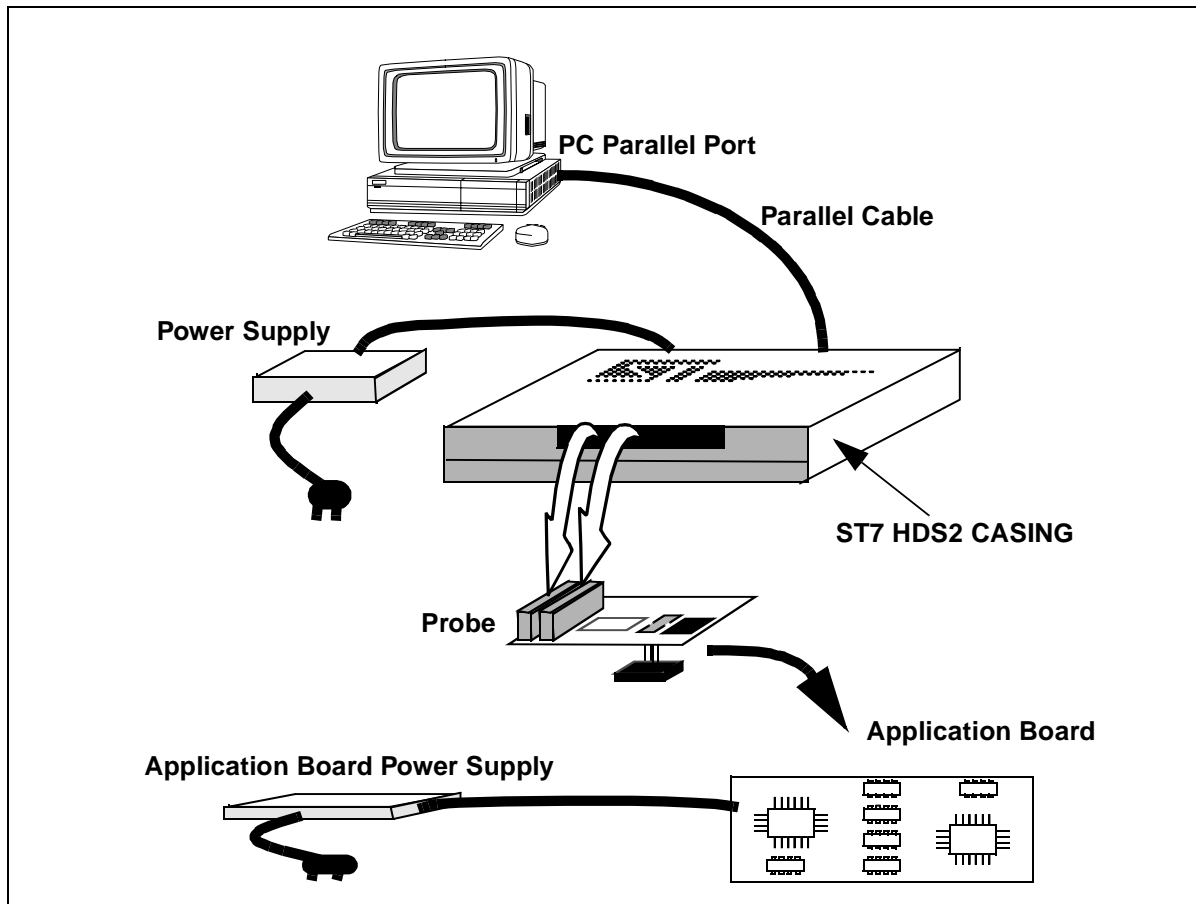

Figure 1: ST7MDT5-EMU2B General Configuration
- *Figure 1* shows a general configuration for the ST7MDT5-EMU2B emulator kit. The main ST7-HDS2 box is connected to your PC via the parallel port. Two flat cables connect the ST7-HDS2 box to the ST7MDT5-Active Probe, to which a device adapter can be fixed so that you can connect the emulator to your application board.